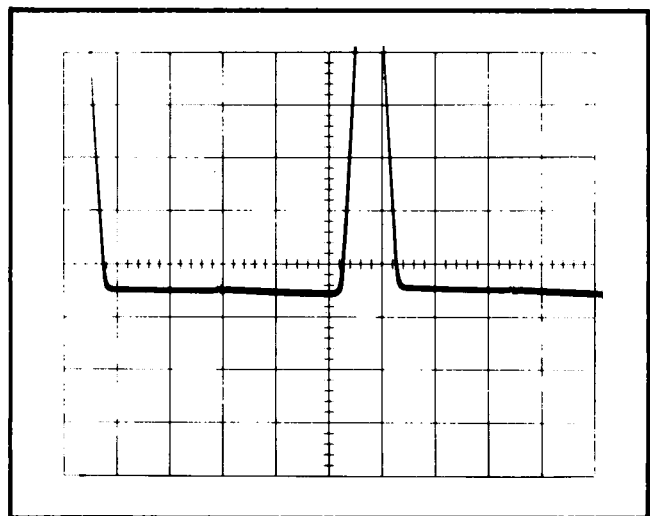

Fig. 3-5. Test oscilloscope waveforms when horizontal limit centering is properly adjusted.
g. CHECK—The base line of both displayed waveforms should be at the same DC level within 0.2 division (see Fig. 3-5).